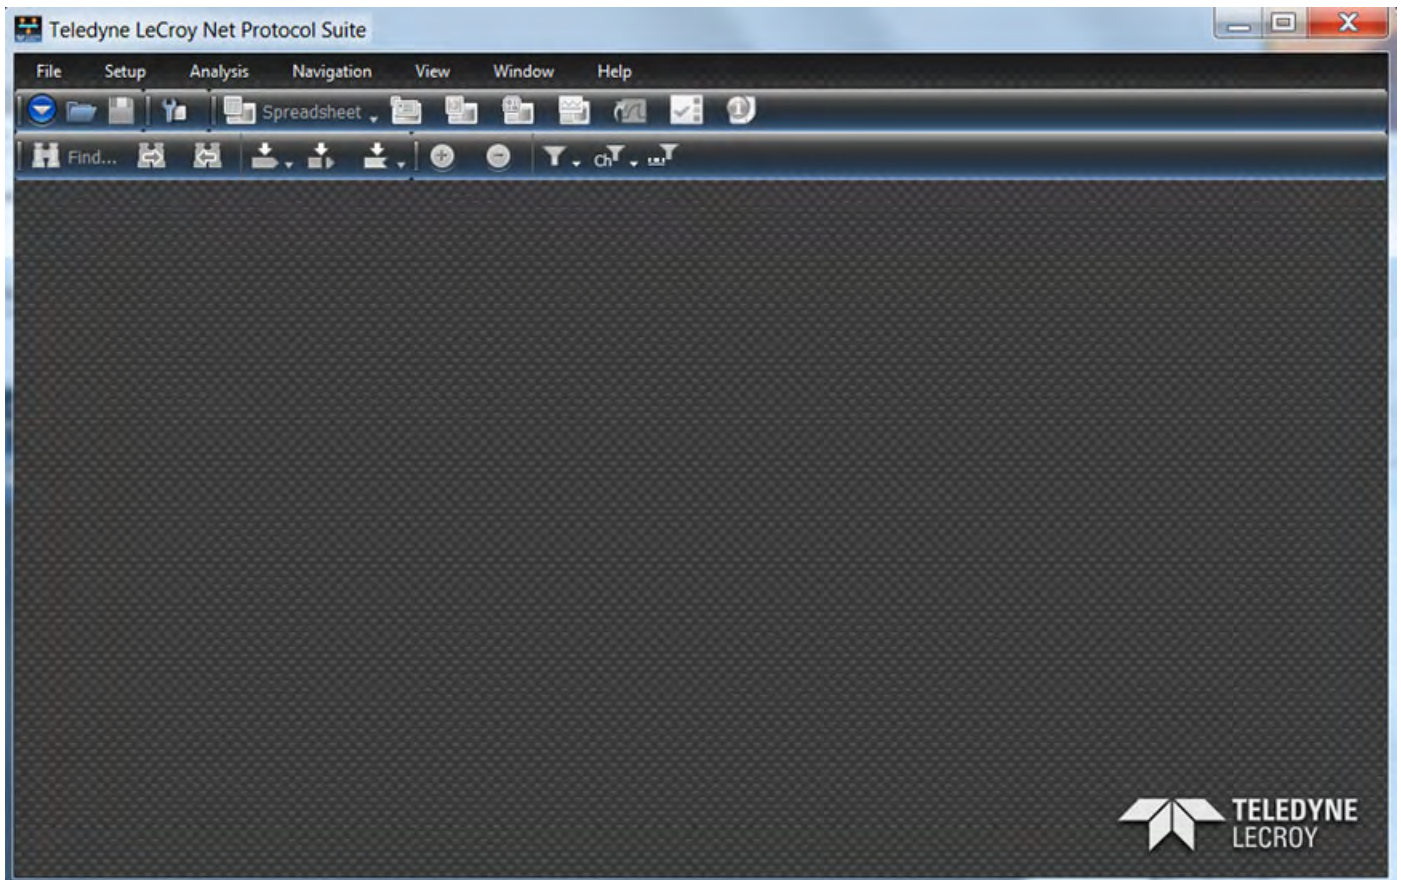

Figure 2.86: Net Protocol Suite Main Menu
6. Once the Analyzer is connected, you can proceed with a New Project. See Figure 2.86 and Analyzer Startup – New Project.